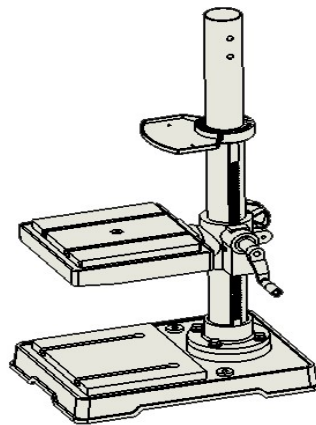

Figure 4
Step 5 The tool tray with holes facing up and security on the column, put the tooth rack upper inserted into the end of the lower tool tray grooves. Figure 4